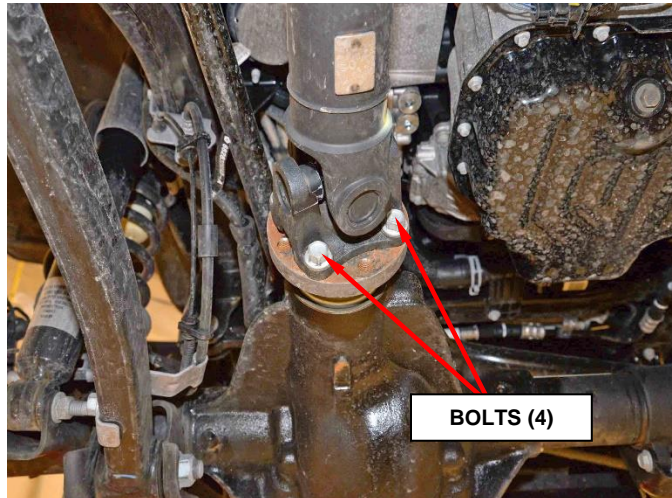

Figure 3 – Pinion Flange
5. Remove the front driveshaft to pinion flange bolts and **DISCARD** (Figure 3).
6. Remove front driveshaft from front differential pinion and secure out of the way using a bungee or suitable strap (Figure 3).